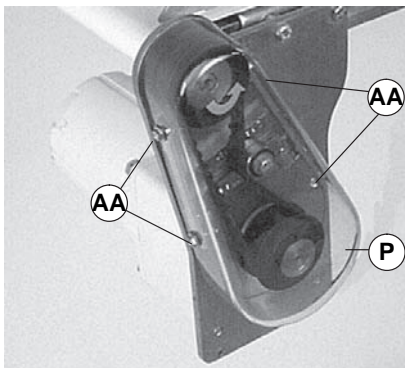

Figure 20
1. Loosen four screws (Figure 20, item AA) and remove cover (P).
Do not over-tighten screws (Figure 20, item AA).
6. Install cover (Figure 20, item P) and tighten four screws (AA) to 35 in-lb (4 Nm).